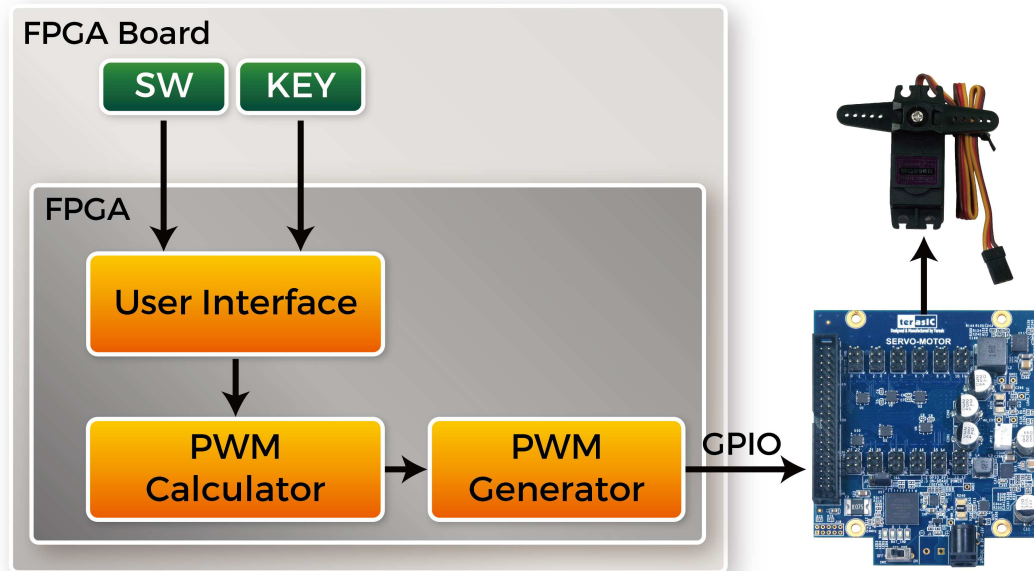

Figure 2 System Block Diagram
**Figure 2** shows the System block diagram of Servo Motor demonstration. The FPGA board generate 3.3V PWM signal and send the signal to the Servo Motor Card through GPIO interface. The Server motor will translate the 3.3V PWM signal to 5.0V PWM signal, and send the 5.0V PWM signal to the servo motor. The servo motor will rotate to an angle specified by the duty cyclone of PWM signal